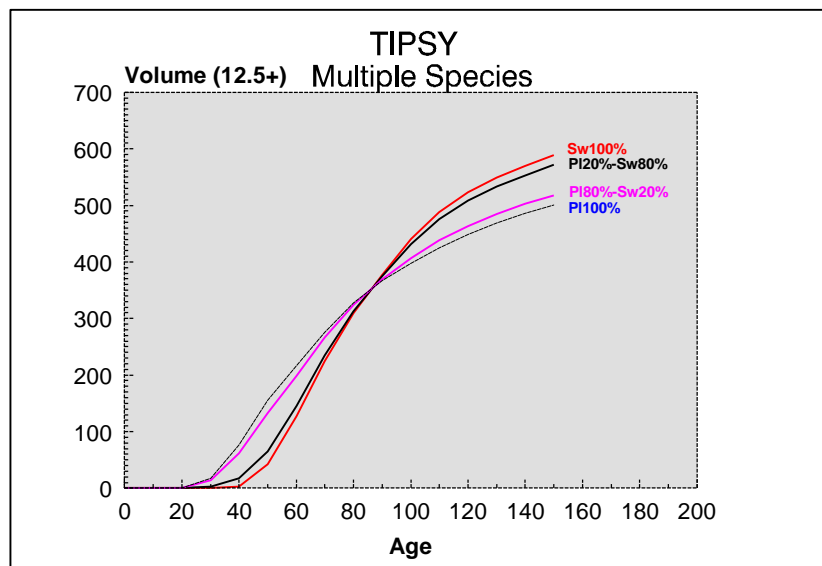

Figure 2. Multiple Species
- It has a multiple species option (Figure 2) oriented to timber supply analysis applications. This option is not recommended for silvicultural applications, since TIPSYS does not simulate the growth of multiple species stands biologically. The only biological assumption considered is the site index conversion adjustment among species